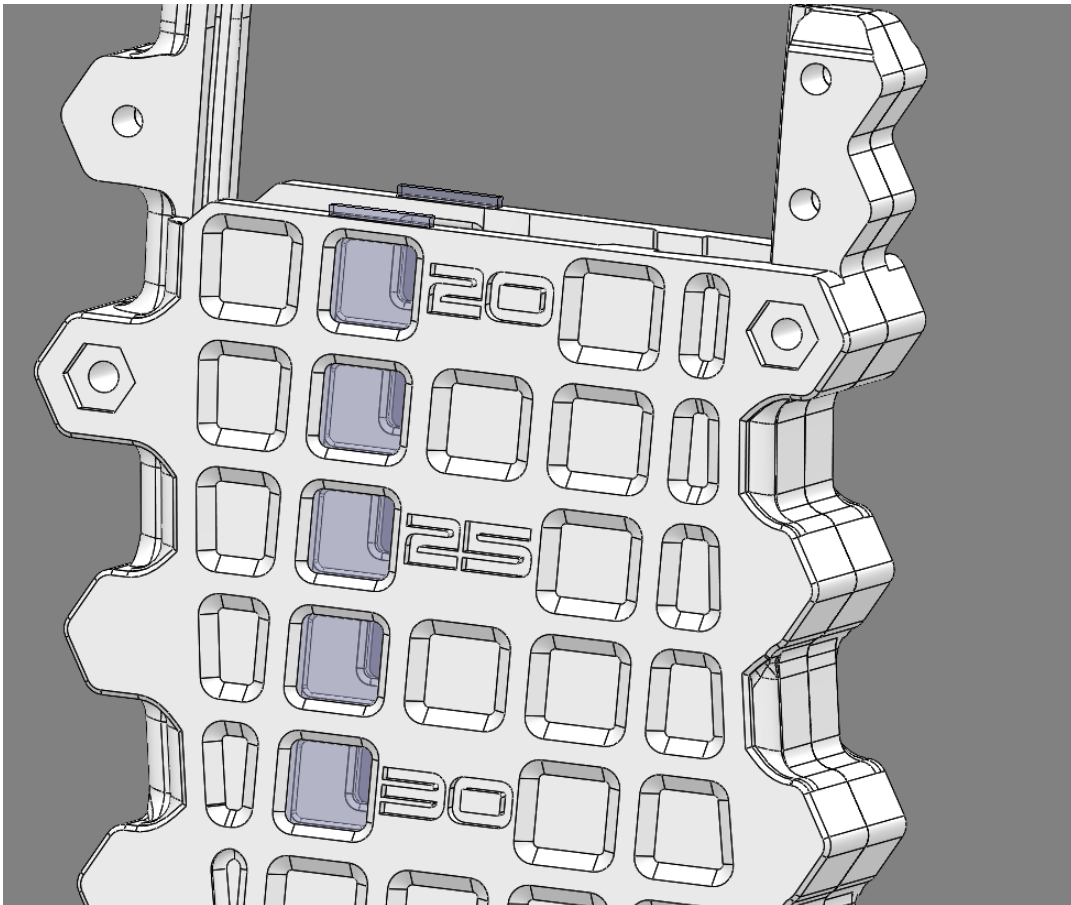

Figure 14: Installed Plastic Strip
8. Slide the clear plastic strip into the channel. There should only be 1 mm poking above the channel entrance, as seen in Figure 14. The channels are shaped to allow for easier printing, so they might be tight on the strip. It may be prudent to sand the rear long edges of the strip.